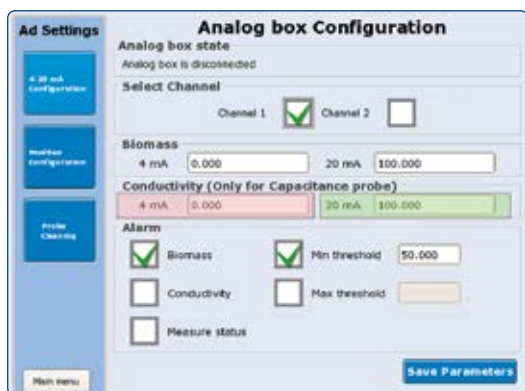

Figure 90: Software Configuration of the 4-20 mA Box for conductivity.
3. Enter the conductivity measurement values for 4 mA and 20 mA output (Figure 90).